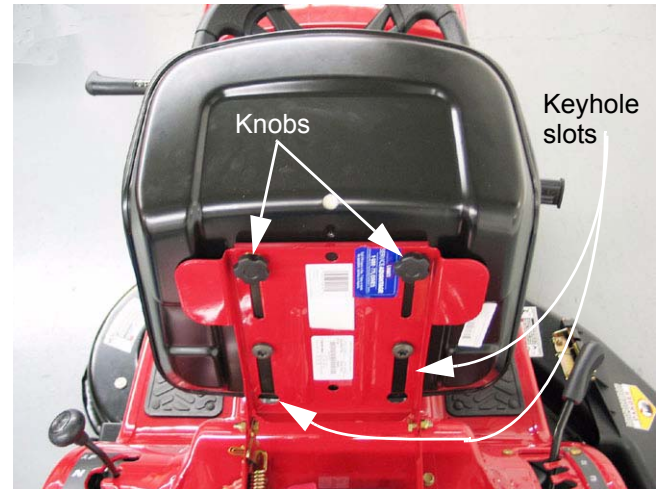

Figure 4.2
- 4.2. The seat bracket allows for easy adjustment of the seat position and removal of the seat by loosening or removing knobs. See Figure 4.2.